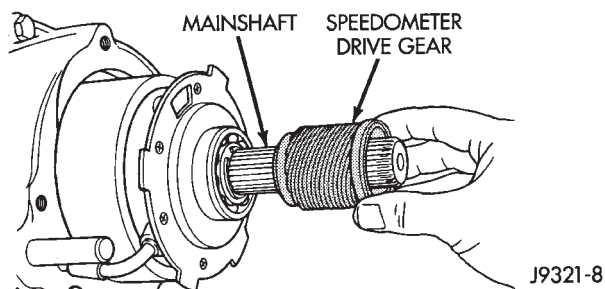

Fig. 8 Removing Speedometer Drive Gear
- (8) Remove speedometer drive gear (Fig. 8).